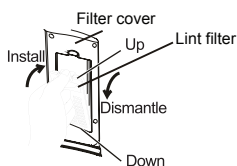

Figure 1
- 1 Push down the spring piece at the top of the lint filter to make the claws out of the filter cover, and then pull out the lint filter to get it down.(figure 1)